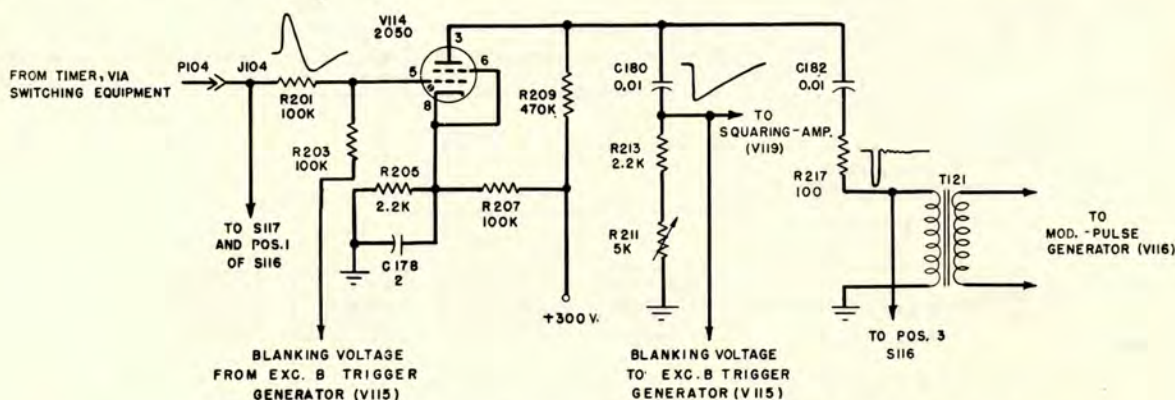

Figure 2-4. Simplified Schematic Diagram of Trigger Generator (Part of Exciter A)
d. TRIGGER GENERATOR STAGE. — The trigger generator stage (figure 2-4) utilizes a type 2050 thyratron tube, V114. Plate voltage (300 volts) is supplied by the low voltage and bias rectifier, V118. (See paragraph 11a and figure 7-38.) When a trigger pulse is not present on the grid of this stage, the thyratron is maintained in a nonconducting state by approximately five volts of fixed bias. This bias is developed across resistor R205 in a voltage divider circuit between ground and the 300-volt plate potential. During the time the tube is not conducting, capacitors C180 and C182 charge to the plate voltage of the tube, approximately 300 volts.
Capacitor C180 discharges through resistor R213, potentiometer R211, resistor R205, and the tube V114, and the resulting steep rise-exponential decay pulse developed across R213 and R211 is applied to the squaring amplifier stage. The duration of the pulse developed across R213 and R211, and hence the length of the pulse out of the squaring amplifier, is determined by the time constant of this R-C circuit. Potentiometer R211 adjusts the time constant and the width of the pulse from the squaring amplifier. An oscillogram of the waveform present at the junction of C180 and R213 is shown in figure 7-13; the facsimile shown on figure 2-4 reveals the sharp leading edge and long exponential decay of the pulse. Peak amplitude of the pulse is approximately 300 volts.
Capacitor C182 discharges through resistor R217, the primary of transformer T121, resistor R205, and tube V114. The resulting steep rise-exponential decay pulse developed across the primary of T121 is coupled to the grid of the modulator. A shorter time constant (C182 and R217) is used in this circuit, since the modulator requires a short-duration trigger. An oscillogram of the voltage present across the primary of T121 is shown in figure 7-2; this waveform may be viewed on the monitor oscilloscope as explained in paragraph 10. The schematic diagram (figure 2-4) shows a facsimile of this waveform.
As shown in figure 2-4, the negative pulse output of V114 is applied to the grid of V115; likewise, the negative pulse output of V115 is applied to V114. If it is assumed that V114 has been triggered by its associated timer, a negative pulse will be transmitted to the grid of V115. This pulse is of sufficient magnitude, for approximately 25 microseconds, to prevent any trigger pulse from affecting the thyatron. Similarly, if V115 were fired first by its timer, V114 could not respond to an incoming trigger for 25 microseconds.